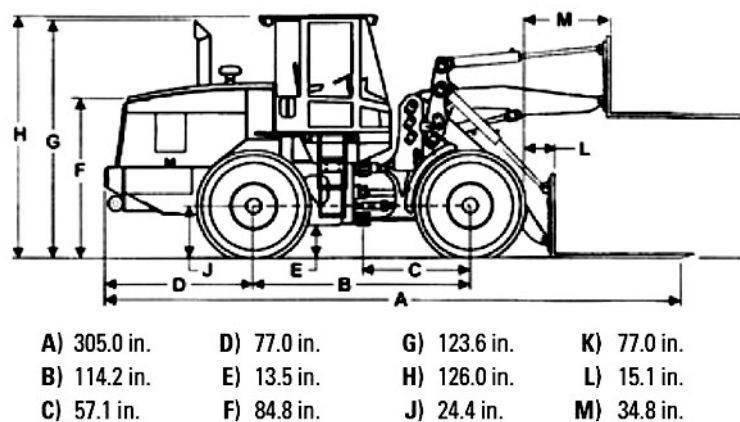

Figure 3-1. 10K AT forklift.
This forklift, as the name states, is designed for operating on rough terrain as evidenced by its very large, balloon tires. Like the 10K-forklift, the 10K adverse terrain (AT) forklift (fig. 3-1) is used for loading, unloading, lifting, transporting, and stacking cargo or bulk articles on pallets. It is also used to load and unload pallets on K-loaders and aircraft. A diesel engine powers the 10K AT and also drives the two hydraulic pumps. The hydraulic pumps power the steering, brake, and fork hydraulic systems.